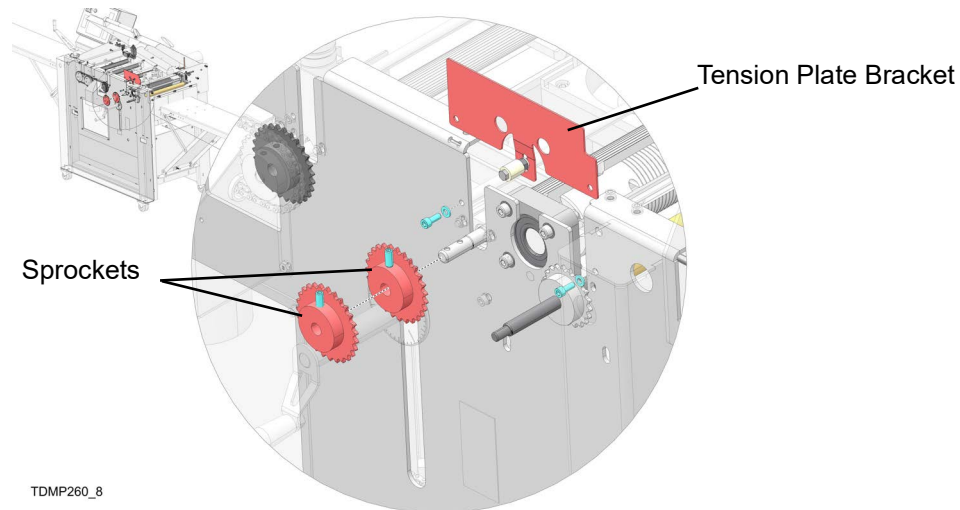

**FIG. 7**
1. Loosen tension bolt to create slack in feed chain #1. See FIG. 7.
3. Use a flat-head screw driver to push master link clip off of link pins. See FIG. 7.